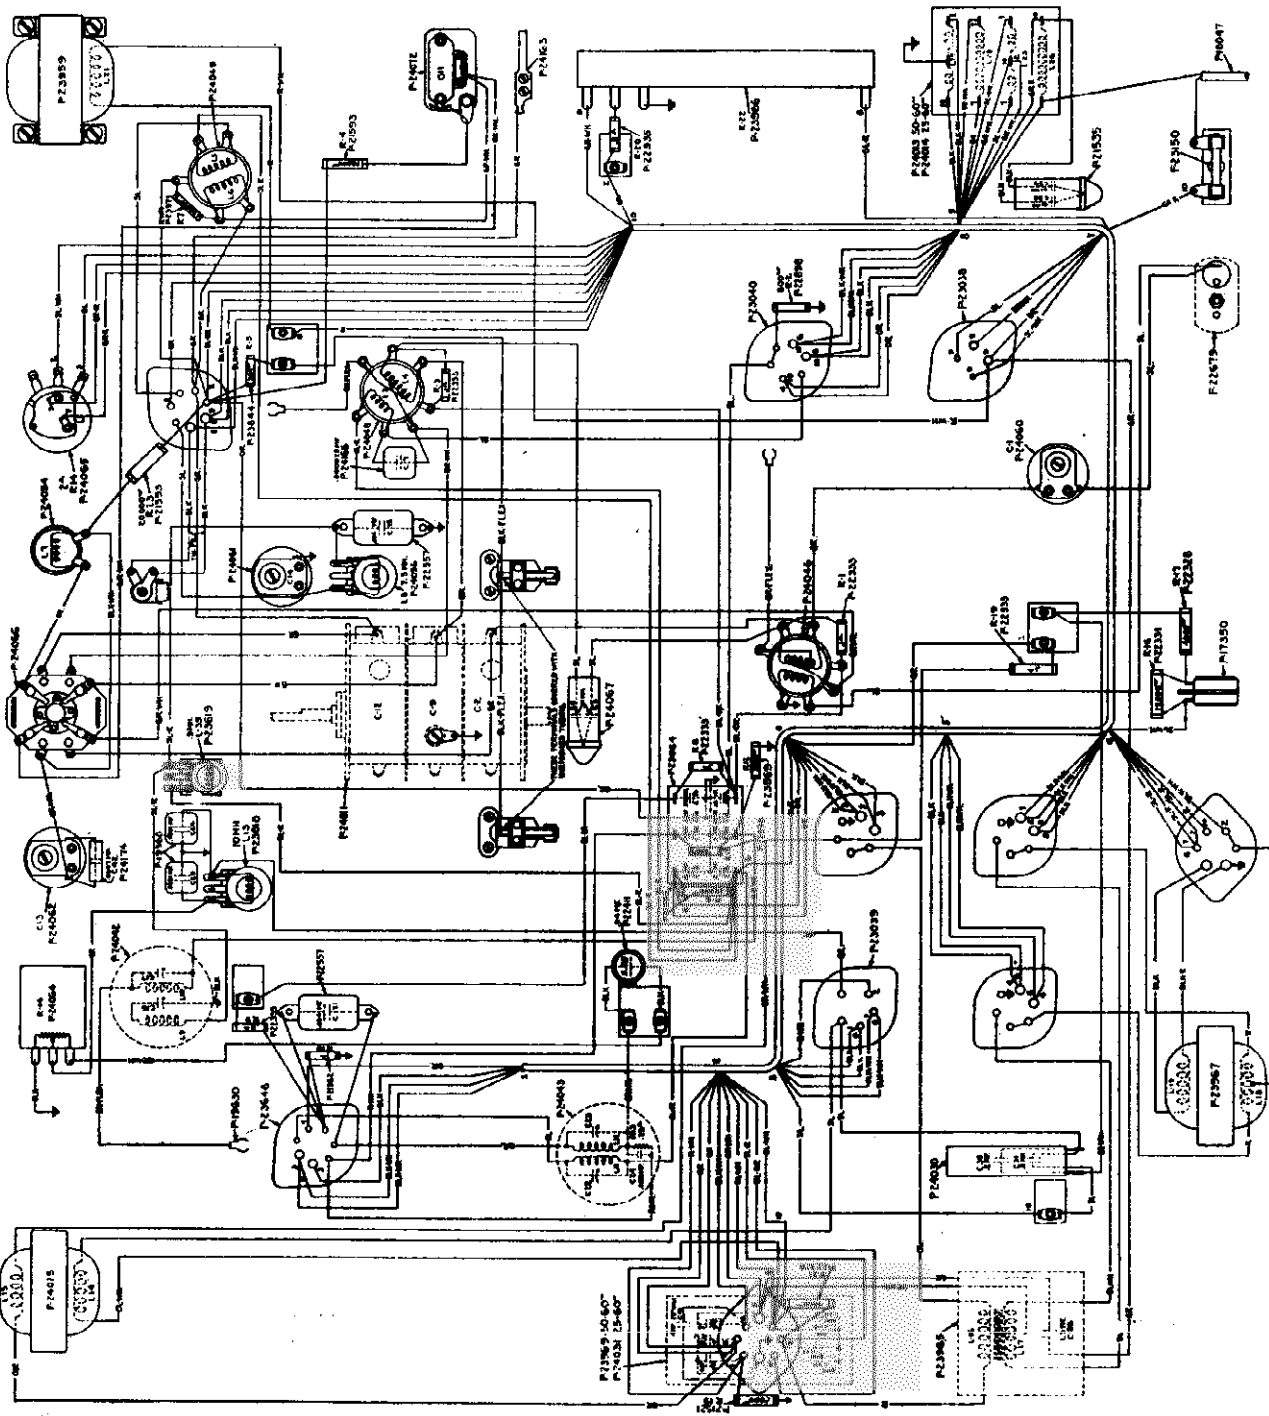

Fig. 3. Wiring Diagram of Chassis.
- Second**—Release the lid stay on the Remote Selector Case by lowering the lid to the position where the stud "M", Fig. 3, on the upper end of the stay can be pushed out of the enlarged slot "N" of the slide plate. A slight side movement is sufficient to release this stay arm. This allows the control box lid to be completely opened as shown in the last view of Fig. 3.
Eleventh—Lower the lid of Remote Selector Case to a location where the end "M" of the lift stay will enter the enlarged slot "N", Fig. 3, in the lid slide plate, after which the lid can be completely lowered or raised to the limit of the stay arm.
First—Release the Remote Selector Case lid stay as shown in Fig. 3. Swing this stay back and close the lid.